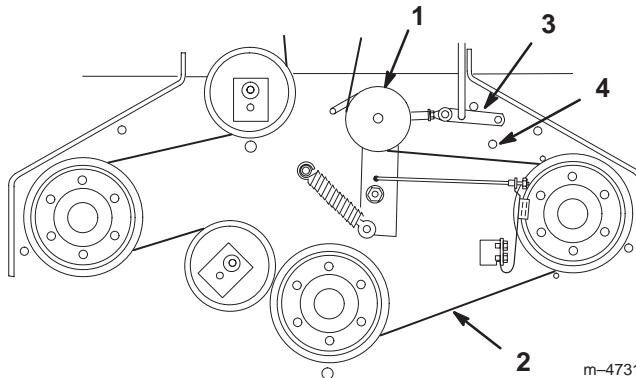
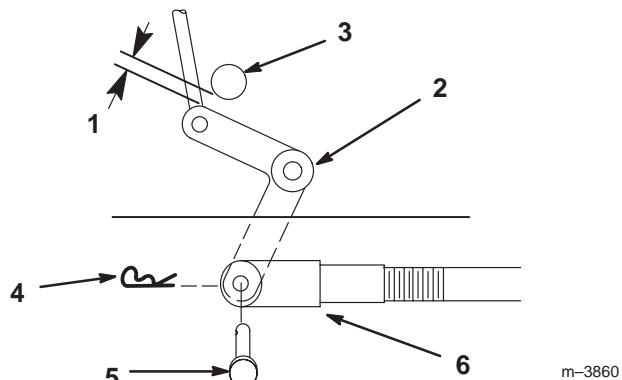

Figure 51
Figure 52
4. Remove mower belt (Fig. 51).
8. Install the mower belt (Fig. 51).
4. Remove idler pulley and then remove worn belt (Fig. 51).
Note: Proper belt tension is 10–15 lbf. (44–67 N) with the belt deflected a 1/2 inch (13mm) halfway between pulleys (Fig. 51).
8. Engage PTO lever and check the clearance between the bellcrank and the transmission output shaft (Fig. 52). Space should be 1/16–1/8 inch (2 mm–3 mm).
9. Remove hairpin cotter and clevis pin from bellcrank. Rotate clevis clockwise on rod to increase or counterclockwise to decrease clearance (Fig. 52).
10. Disengage the PTO. If the assist arm does not contact the front stop on the mower deck (Fig. 51), readjust the clevis to bring the bellcrank closer to the transmission output shaft (Fig. 52).